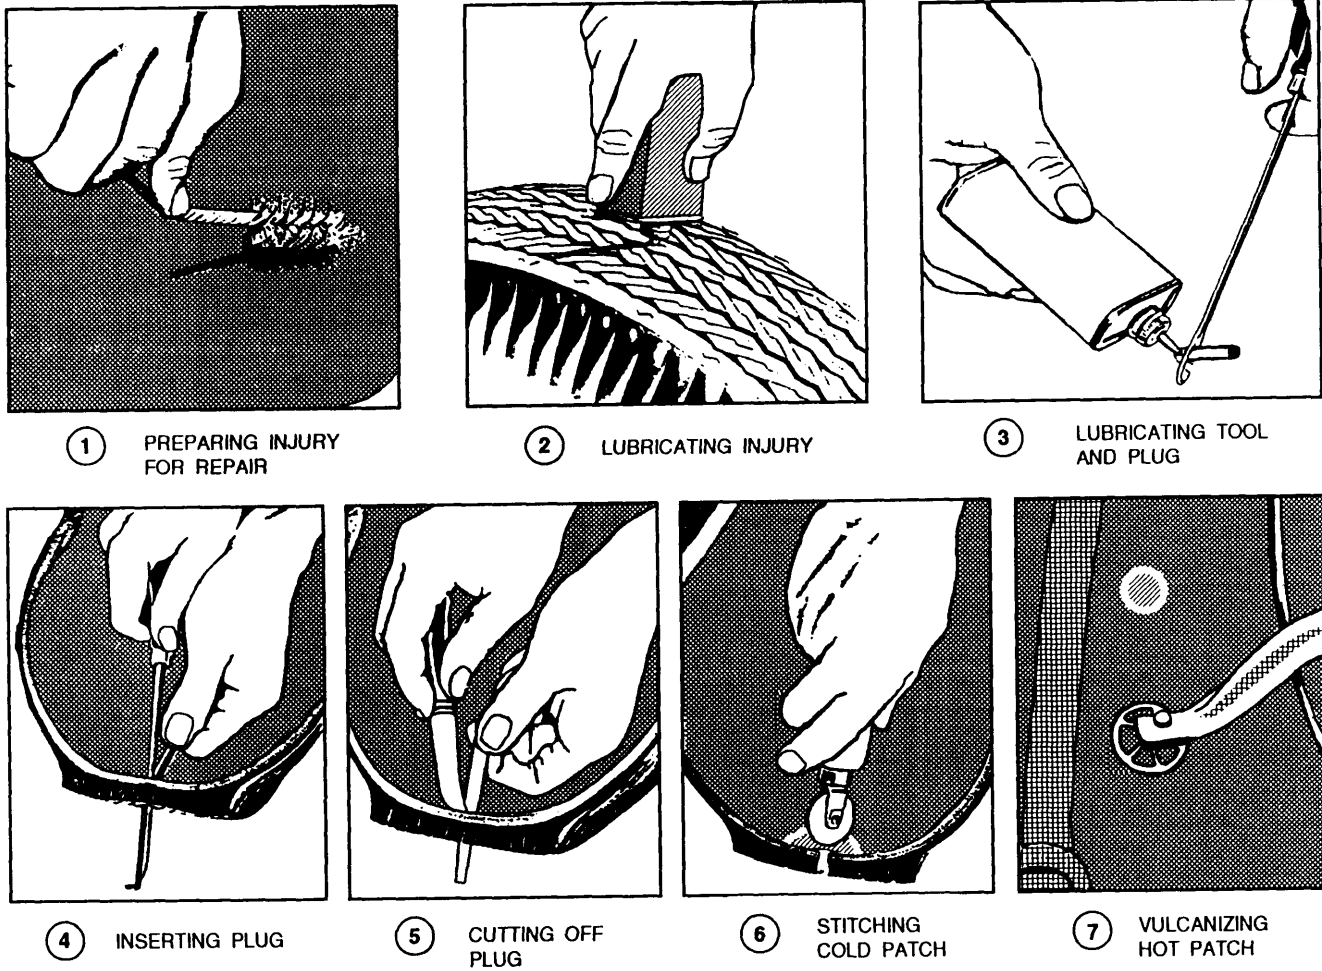

Figure 3-33.—Repair of tire punctures
1. Inspect the inside of the tire and remove nails or other damaging items. Then scrape the damaged area with a sharp-edged tool and buff (fig. 3-33, step 1). Be careful not to damage the liner or expose any cords.
2. Lubricate the hole by pushing bonding compound into the hole from both sides of the tire (fig. 3-33, step 2). Also, pour bonding compound on the insertion tool and push it through the hole with a twisting motion until it can be inserted and withdrawn easily.
3. Using a plug slightly larger than the hole, place it in the eye of the hole of the insertion tool. Wet the plug with bonding compound. Always pour it directly from the can so the contents in the can does not become contaminated, as shown in figure 3-33, step 3.
4. While stretching and holding the plug with your hand, insert the plug into the hole from the inside of the tire. Stretch and hold the plug until it is forced into the hole and one end extends through it, as shown in figure 3-33, step 4.
5. After the plug extends through the tire, remove the insertion tool and cut off the plug approximately 1/16 inch above the surface (fig. 3-33, step 5).
6. When using a cold patch, carefully remove the backing from the patch and center the base of the patch on the damaged area. Stitch the patch down firmly with the stitching tool working from the center out (fig. 3-33, step 6).
7. When using a vulcanizing hot patch, cover the area with a light coat of glue and allow it to dry. This glue normally comes with the hot patch kit. Remove the backing from the patch and center it on the damaged area. Clamp it finger tight, apply heat, allow to cure, and then cool. (fig. 3-33, step 7).
Punctured tires can be repaired without being removed from the rim. In this case, the insertion of the plug is performed from the outside in, and steps 6 and 7 of figure 3-33 are not required.